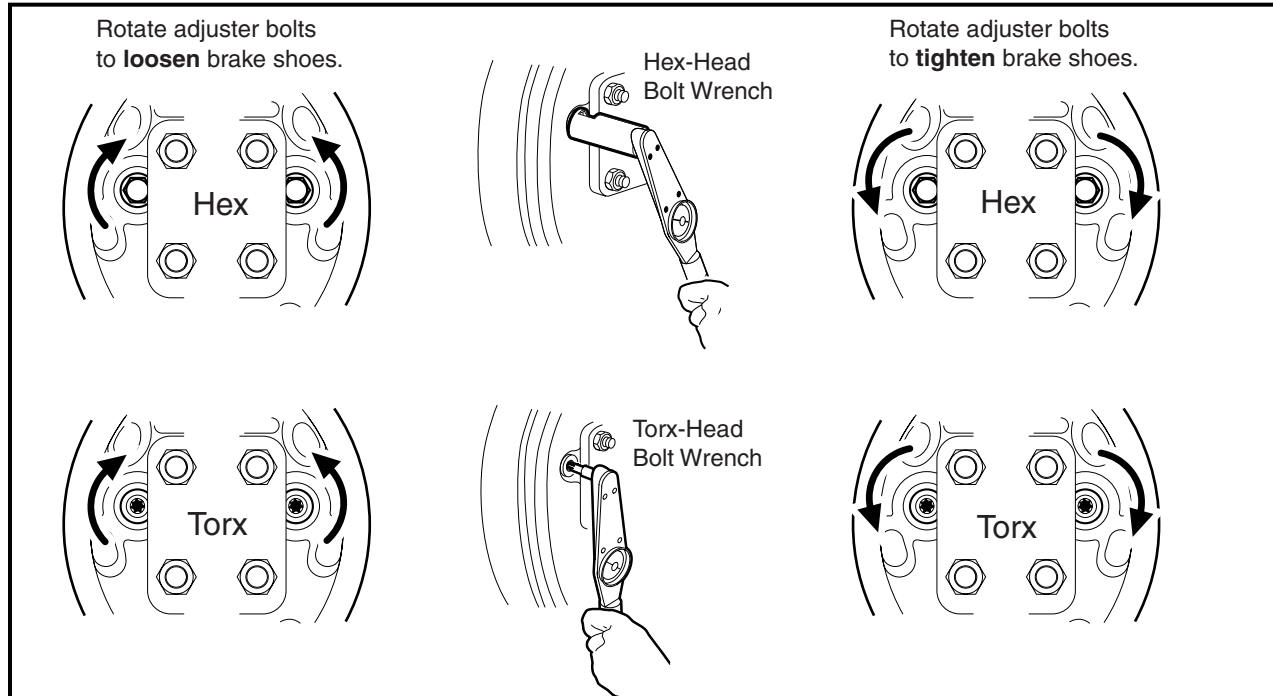

Figure 6-14 Loosen or Tighten Brake Adjusters
- 9.2. Use a torque wrench and a Torx #27 driver, or hydraulic brake adjuster (CC 102169401), and gently rotate the adjuster bolts to increase the clearance between the brake shoe lining and the brake drum (**Figure 6-14, Page 6-16**). See following **NOTE**.
18. Install the dust cover (1).
19. With the brake drum properly seated and secured, use a torque wrench with a Torx #T-27 driver, or hydraulic brake adjuster (CC 102169401) and gently adjust the clearance between the brake shoes and brake drum by turning each of the two adjuster bolt heads on the back of the brake cluster plate (**Figure 6-14, Page 6-16**). See following **CAUTION**.
2. Use a torque wrench and a Torx #T-27 driver, or hydraulic brake adjuster (CC 102169401), and gently rotate the adjuster bolts to increase the clearance between the brake shoe lining and the brake drum (**Figure 6-14, Page 6-16**). See following **NOTE**.
4. With the brake drum properly seated and secured, gently adjust the clearance between the brake shoe lining and brake drum (**Figure 6-14, Page 6-16**). See following **CAUTION**.